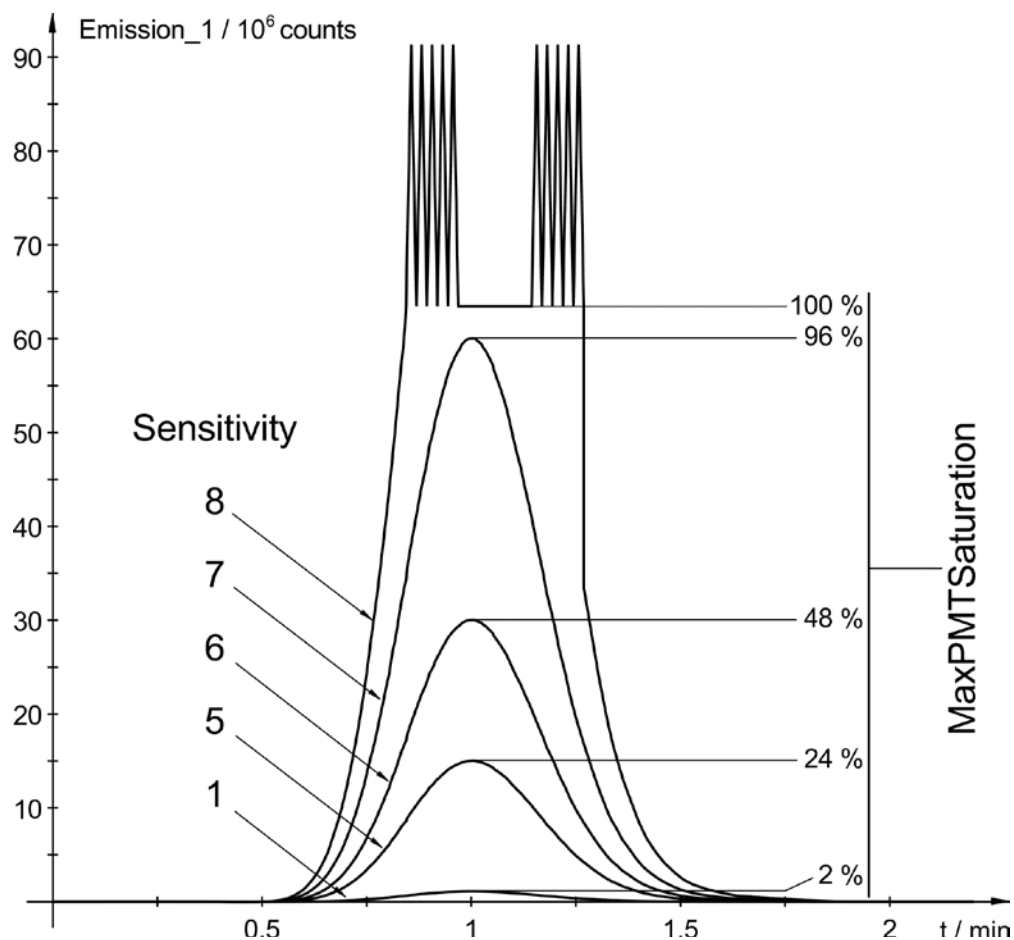

Fig. 35: Effects of the Sensitivity setting
A PMT (or optionally two PMTs) measures the intensity of the emission light after the emission monochromator. The sensitivity of the PMT can be adjusted in 8 steps (1 to 8) with the Sensitivity parameter. With each step, the sensitivity of the PMTs increases by approximately a factor 2. If a peak with sensitivity = 5 is 15 million counts high, for example, the peak height increases to 30 million counts when the sensitivity = 6 (→ Fig. 35).
- If the selected sensitivity is *too small*, the peak height is reduced and the signal-to-noise ratio is not optimal (→ Fig. 35, Sensitivity = 1).
- If the selected sensitivity is *too large*, the PMT signal is saturated. In this case, the detector automatically reduces the sensitivity. Lines appear in the chromatogram at the beginning and at the end of the saturation (→ Fig. 35, Sensitivity = 8). If the detector is not saturated any more, the Sensitivity setting before saturation is restored.
With the FLD-3x00(RS), the intensity of the emission light (measured by the PMT) is normalized with the intensity of excitation light through the sample (measured by the reference diode). Therefore, the values (counts) that the emission channel displays cannot be used for optimizing the sensitivity. In Fig. 35 the PMT is saturated at 63 million counts. However, under different measuring conditions, the PMT may be saturated at a value of 100 million counts, for example.
Therefore, use the **MaxPMTSaturation** parameter to optimize the Sensitivity (→ Fig. 35 right). This parameter continuously stores the maximum PMT saturation in percent of the saturation value. A program example can be found in the Chromeleon Help.